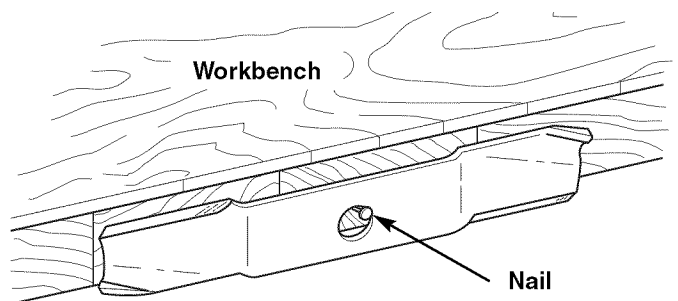

Figure 26. Balancing the Blade
6. Balance the blade as shown in Figure 26. Center the blade’s hole on a nail lubricated with a drop of oil. A balanced blade will remain level. If the blade is not balanced, continue to sharpen the heavy side until it balances.